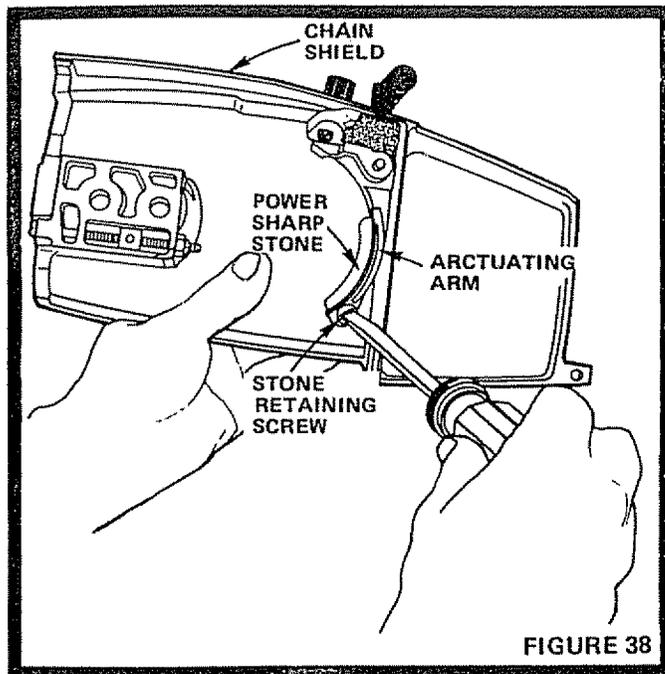

FIGURE 38
2. Loosen Stone Retaining Screw to slide Power Sharp Stone from Arctuating Arm (Fig. 38).
Replace Power Sharp Stone when installing new Chain (Fig. 38).